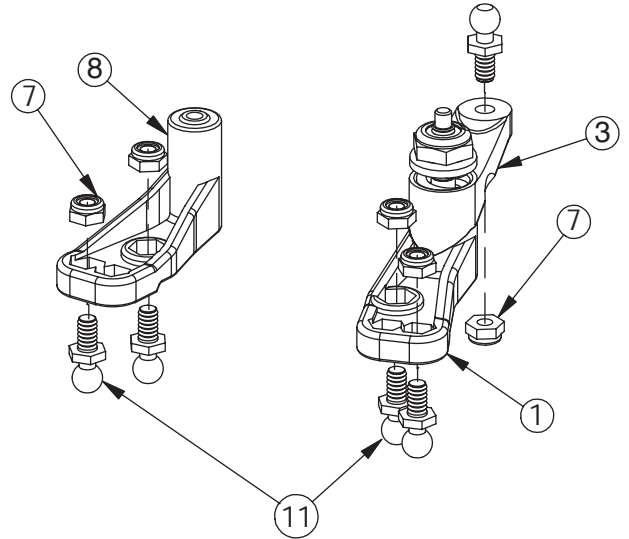

Figure 2
⑪
⑦
- ❑ 1. Insert a 4-40 Mini-Locknut (7) into the outer hex area in the Servo Saver Bottom (1) and steering Idler Arm (8) as shown in Figure 2. Thread a 3/16" Ball Stud (11) through the outside hole in each arm, into the Nuts, and tighten. Insert a 4-40 Mini-Locknut into the hex area in the Servo Saver Top (3). Thread a 3/16" Ball Stud through the hole in the Arm, into the Nut, and tighten.
- ❑ 2. Insert a 4-40 Mini-Locknut into the hex areas in the rear holes of the Servo Saver Bottom and the steering Idler Arm as shown in Figure 2. Thread a 3/16" Ball Stud through the Arms, into each Nut, and tighten.